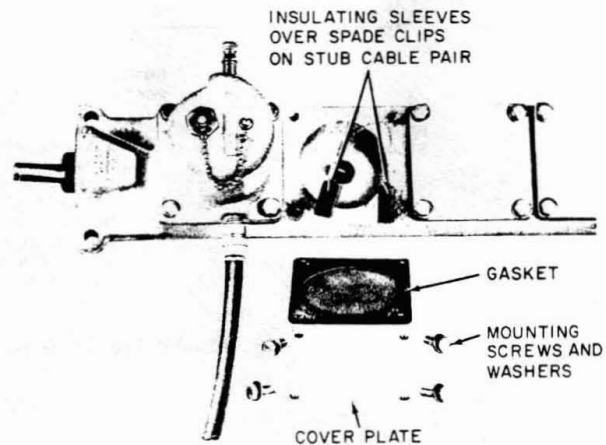
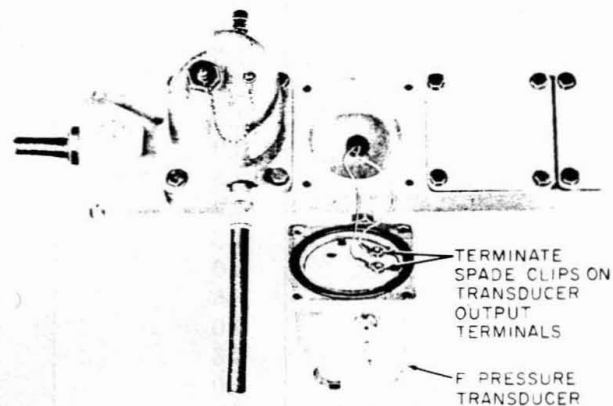

Fig. 13—Blank Cover Plate Removed from C Transducer Housing
Fig. 14—Stub Cable Pair Terminated on Transducer
- (1) Remove the blank cover plate from the transducer housing to expose the stub cable pair inside the cavity (Fig. 13).
- (2) Place O ring in groove on rear flange of transducer. The use of a small amount of C cement on the O ring will aid in holding it in place.
- (3) Terminate the spade clips of the pair to the transducer output terminals (Fig. 14).
- (4) Insert the transducer into the cavity and securely tighten the four mounting bolts.
- (5) Connect the transducer cavity with tubing to the cable or pipe to be monitored.
- (6) Test, and adjust if required, the transducer as covered in 6.20 and 6.21.